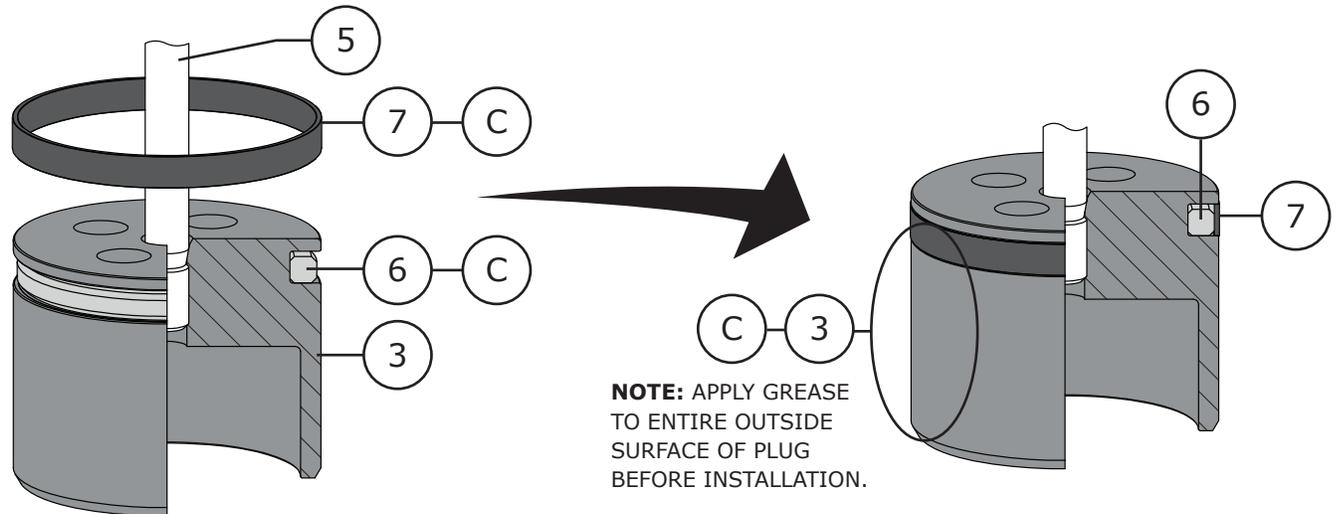
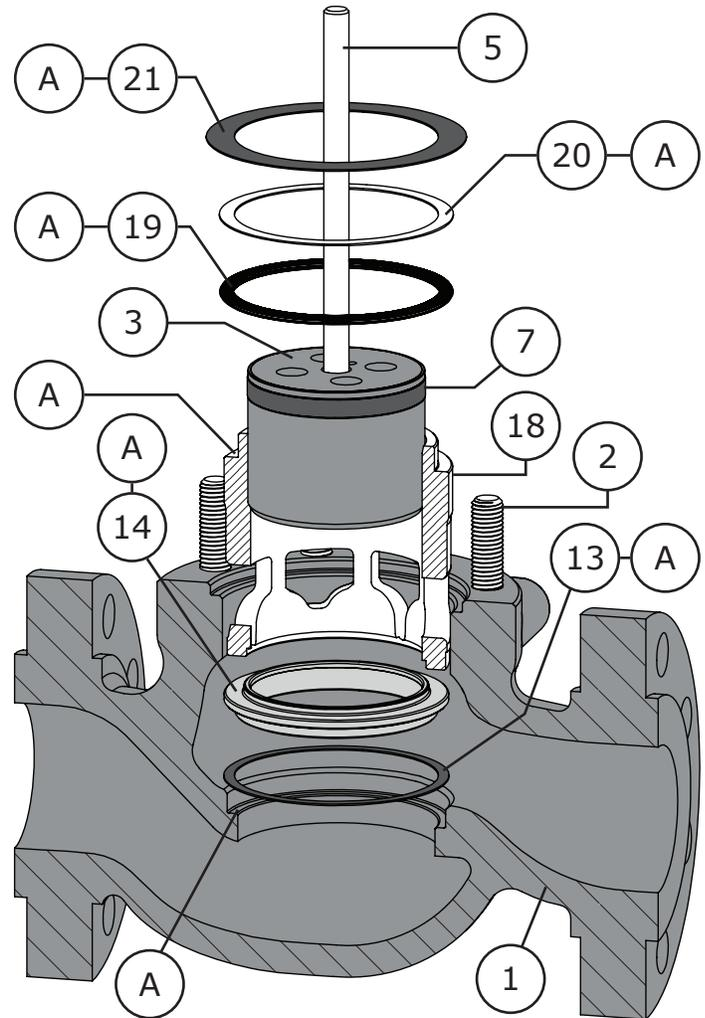

Figure 19 Two-Piece Plug Seal Assembly (Model 350 Only)
Figure 25 Trim Parts Assembly
- 2 Carefully slide the backup ring (Key 6) over the top of the valve plug (Key 3) and into the groove. Refer to Figure 19.
- 3 Apply Lubriplate® No. 105 (Key C) to the seal ring (Key 7). Carefully slide the seal ring over the top edge of the valve plug (Key 3) and into the groove, refer to Figure 19.
- 5 Before installing the plug/stem assembly into the valve, apply Lubriplate® No. 105 (Key C) to the outside surface of the plug (Key 3) as shown in Figure 19.
- 1 Apply nickel anti-seize (Key A) to the seat ring pocket of the valve body (Key 1). Install the seat ring gasket (Key 13) into the valve body (Key 1). Apply nickel anti-seize (Key A) to the top of the seat ring gasket (Key 13). Refer to Figure 25.
- 6 Apply Lubriplate® No. 105 (Key C) to the side of the valve plug (Key 3) (Refer to Figures 19, 20, 21, & 22). Install the valve plug assembly into the cage (Key 18) (Refer to Figure 25).
- 7 Apply nickel anti-seize (Key A) to the gasket surface of the cage (Key 18) and top surface of the spiral wound gasket (Key 19), metal shim (Key 20), and bonnet gasket (Key 21). Install the gaskets and shim as shown in Figure 25.